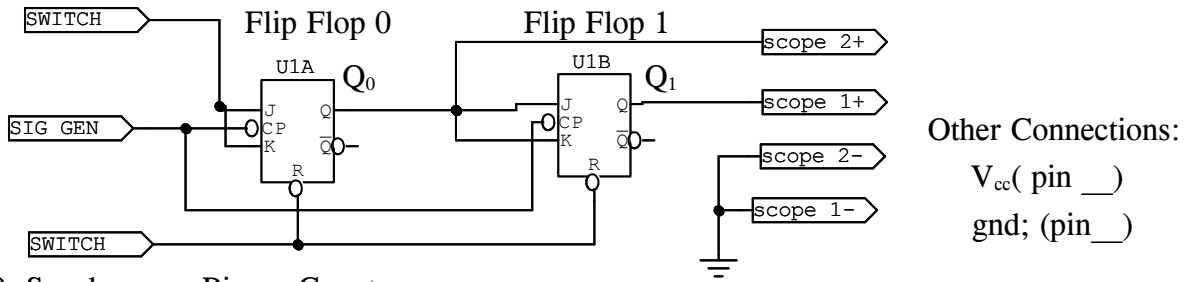

Figure 9, Synchronous Binary Counter
(1) Construct the circuit shown in figure 9, on next page. This is a synchronous binary counter because the clocks in all the circuits receive their signals simultaneously.